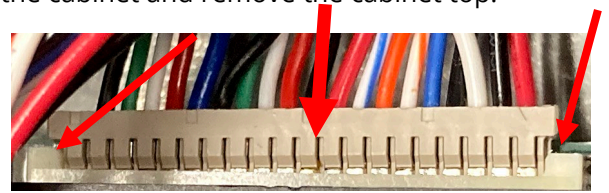

Figure 6
1. Remove the four (4) Phillips screws on the top of the cabinet and remove the cabinet top.
2. **Ensure the connector, that attaches directly to the rear of the touch screen, is fully inserted into the connector by pressing in on both sides of the connector (see Figure 6). The photo shown shows the right side slightly out of the connector. It may require disconnecting and reconnecting the connector. Both sides of the connector should be flush against the connector on the board.**